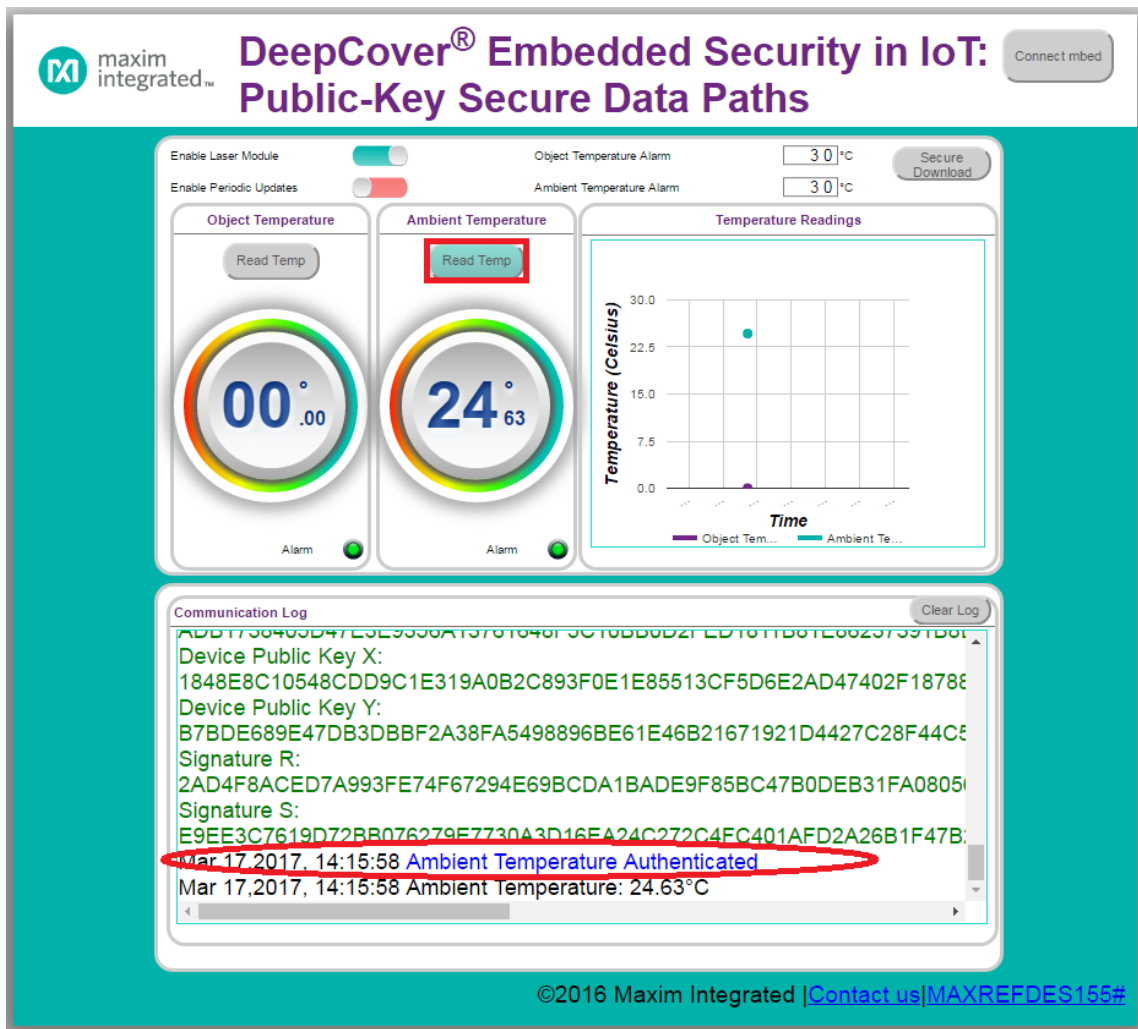

Figure 16. An authenticated temperature reading.
Note: Toggling the **Use invalid sig.** instructs the mbed to make the generated temperature measurement signatures unauthenticated when using the web client per **Figure 16** and **17**.
2. Click on the **Read Temp** button (Figure 16) and verify a temperature was read and is authentic.